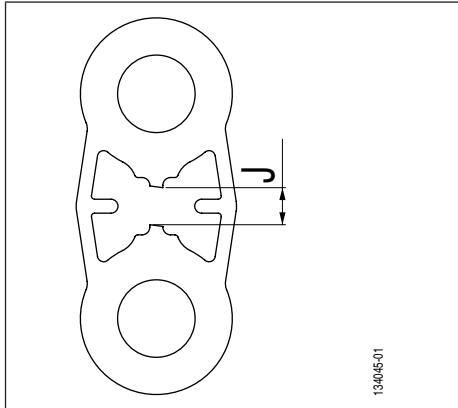
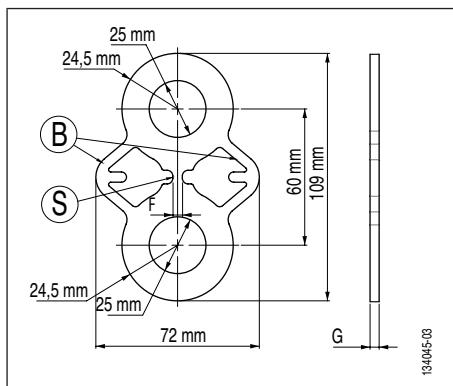

Fig. 1
Fig. 3
The test load is reached when the central section of the plate (*Fig. 3, page 4*, item S) shears. A pair of brace arms (*Fig. 3, page 4*, item B) secure the loading line after shearing of the 'S' section.
The different TA test plates are made of stainless steel of the same grade to ensure shearing of the section (*Fig. 3, page 4*, item S) to a level of precision of +/- 10 % of the CR shear load indicated on the TA test plate (*chapter 11. Markings*). The brace arms (*Fig. 3, page 4*, item B) are designed to ensure a mechanical strength of at least the CR shear load indicated on the test plate.
- At the shear load CR indicated on the TA test plate (*chapter 11. Markings*) shear of S section (*Fig. 3, page 4*, item S).
- Elongation of plate and appearance of clearance 'J' between upper and lower half-parts of TA test plate (*Fig. 1, page 4*, clearance J).
DANGER: If the operator applies a new load to the test plate after shearing of the 'S' section, the brace arm can break (Fig. 3, page 4, item B) resulting in falling down of the load application device. The maximum clearance 'J' (Fig. 1, page 4, clearance J) must not exceed 15 mm.